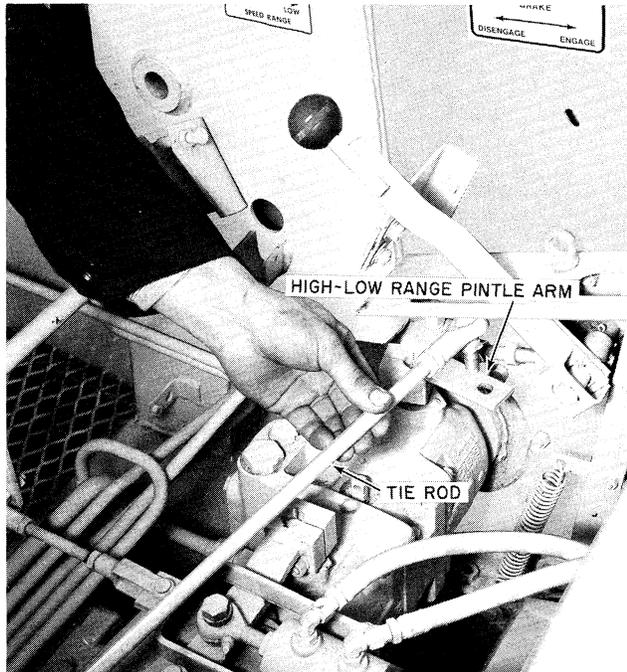

FIGURE 2
3. Disconnect the high-low range tie rod from the pintle arm at both ends and remove. See Figure 2.